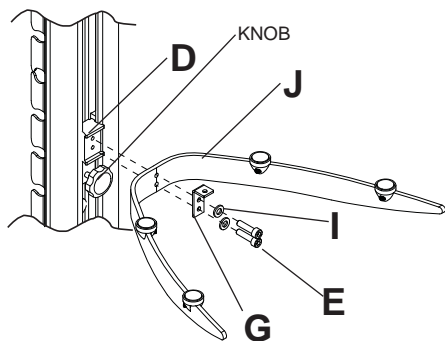

fig. 4.1
- 4 Attach shelf bracket (J) and glass support bracket (G) to shelf attachment clamp (D) using two M5 x 18mm screws (E) and washers (I) shown in figure 4.1 using 4mm allen wrench (M). Adjust the level of the shelf bracket (J) to desired height then tighten knob to secure.